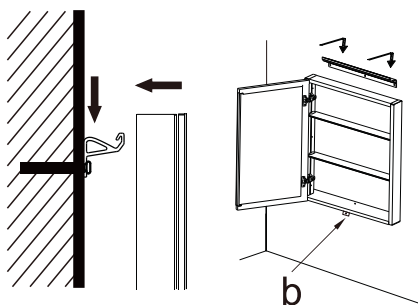
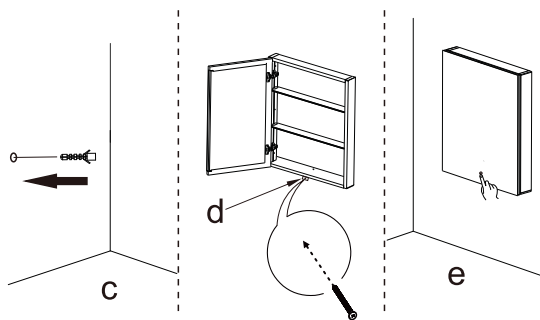

Fig.5
Fig.6
2.3 Install the mirror cabinet on the hanging strip ,see details in Fig.5. Choose right locating place and use pencil to make sign on the wall through the base fixing the hole (b).
2.4 Remove the mirror cabinet, drill the fixing hole in the wall in the marked position, and place the expansion plugs (Fig. 6-c).
2.5 Repeat as shown in Fig.5 to install the mirror cabinet on the wall. Lock the fixing plate at the bottom of the mirror cabinet on the wall with screws (Fig.6-d)
2.6 Finally,switch on the power,and then touch the "switch" sign (fig.6-e)with a finger on the lens to test the products